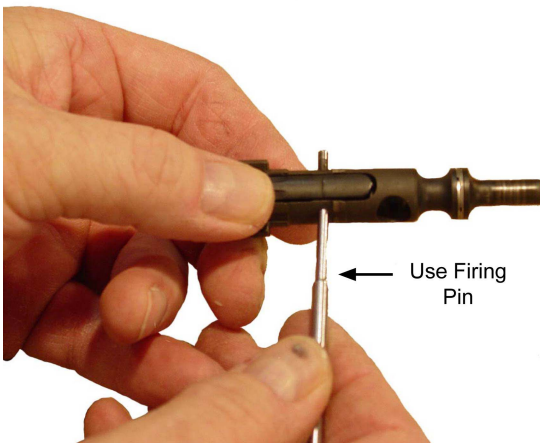

Figure 3-14. Checking Spring Function
DO NOT DAMAGE TIP OF FIRING PIN WHEN PUSHING OUT EXTRACTOR PIN. REFER TO FIGURE 3-14.
- (1) Remove extractor pin using firing pin. Refer to Figure 3-14.